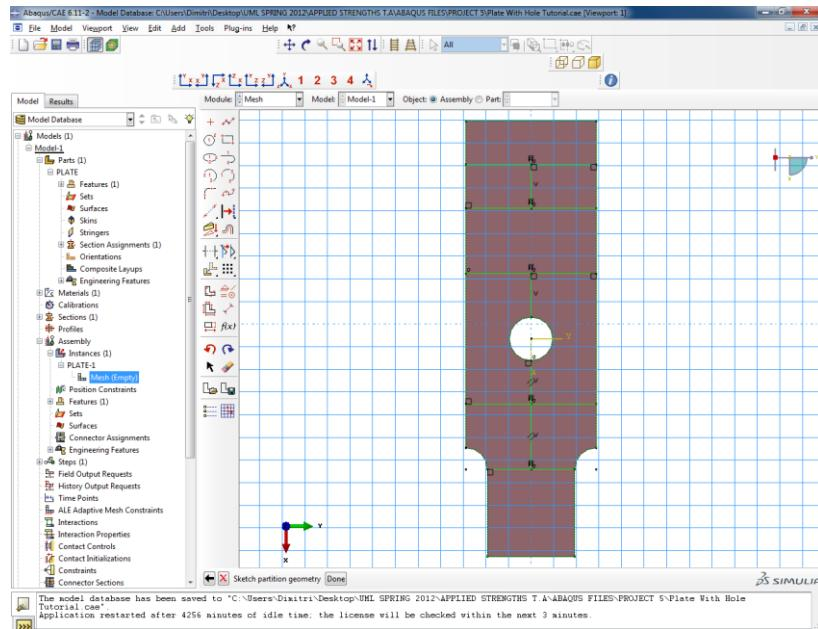

Figure 17. Partitioned Geometry
- To create a mesh for the model geometry, expand **Instances (1)** in the model tree and then expand the **PLATE-1** instance in the model tree and double click **Mesh (Empty)**. Be sure to mesh in the ASSEMBLY part of the model tree and not the PARTS section. If this selection is done correctly, then the geometry should change color to pink.
- Using the **Create Lines: Connected** icon in the module create lines such that the geometry looks identical to that in Figure 17.